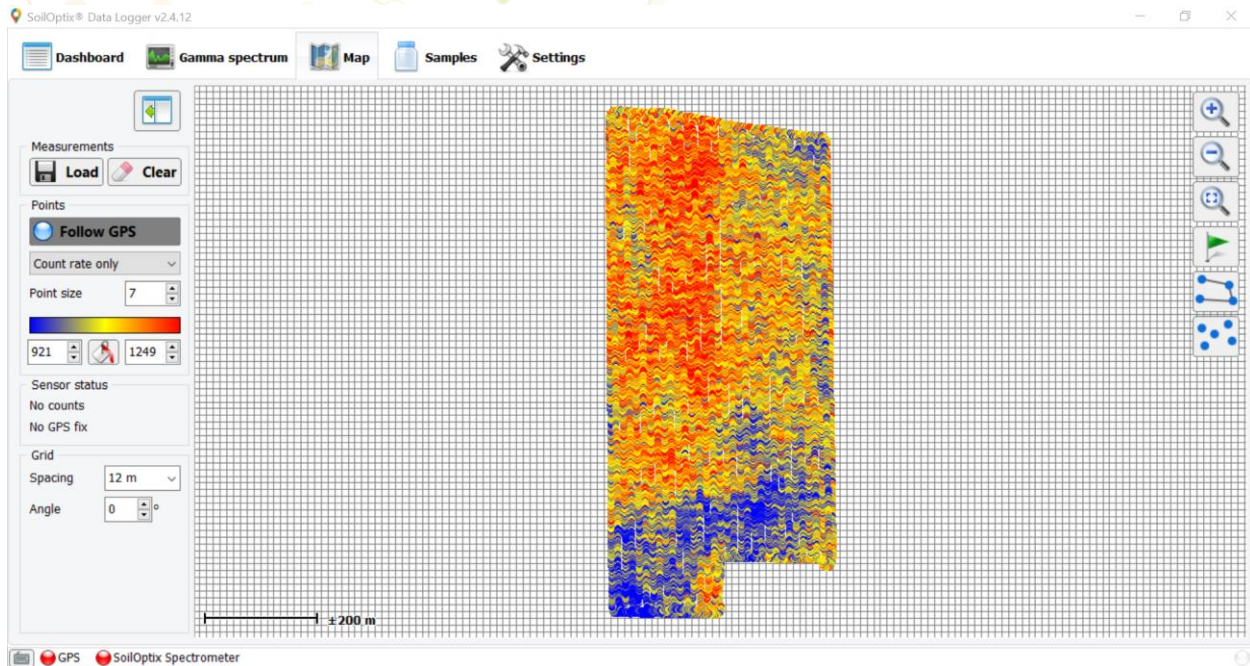

Figure 2: Field example of completed survey using SoilOptix® sensor technology in SODL.
Step 1 of this process involves the use of the SoilOptix® sensor to map the gamma radiation across the field. The sensor, mounted 2ft (80cm) above the ground on a field survey vehicle, is used to survey and collect information emitted from the soil itself. SoilOptix® providers follow the general guidelines of 40ft (12m) swath widths and speeds up to 12mph (20kph). Upon completion of mapping the field, the user will receive a map representing Countrate immediately in the SoilOptix® Data Logging (SODL) software. Figure 2 illustrates a full field survey collected using the SoilOptix® sensor technology, as displayed in SODL.